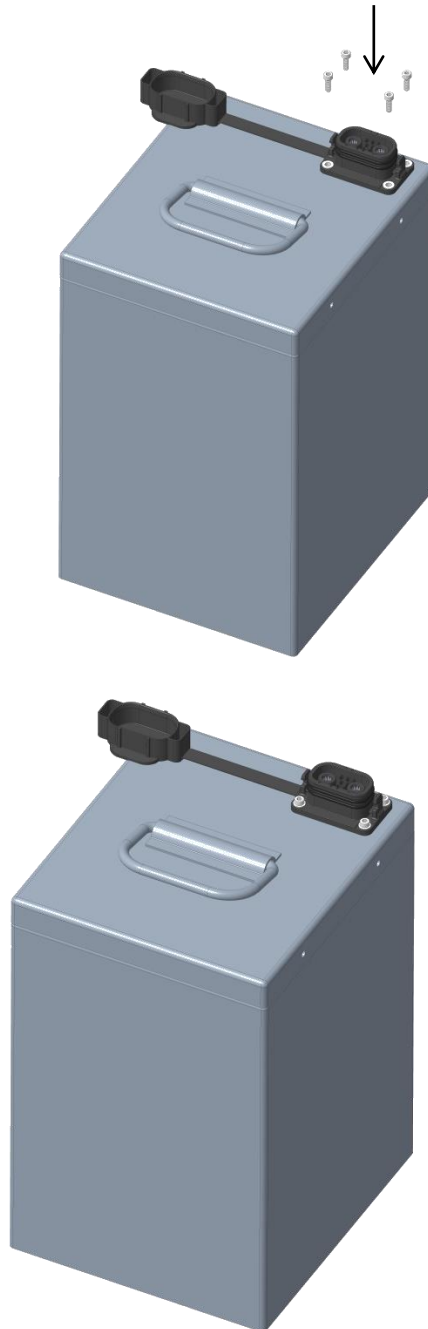

Figure 8
5.1.4 Insert M3 fasteners in the mounting holes of socket assembly (Fig.8)